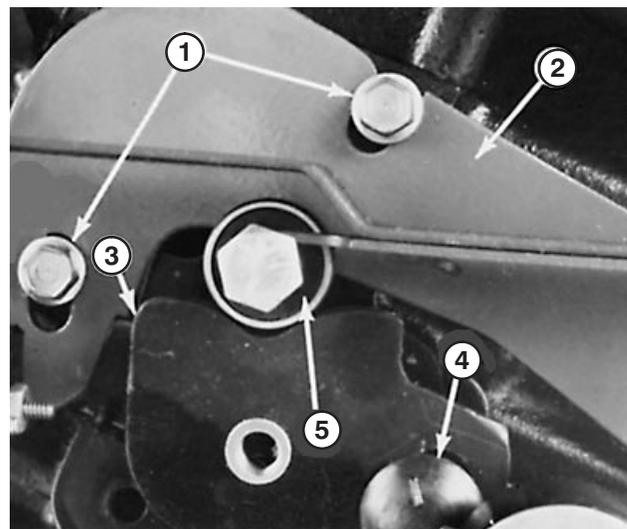

Figure 71
4. With engine OFF, loosen nut on carriage bolt and allow bearing to locate cam (Fig. 71). Carefully tighten nut on carriage bolt.
5. Loosen screws to allow neutral device bracket to move; but not freely (Fig. 71). Adjust neutral device bracket so that $40 \pm$ in.-lb. of torque on control lever just starts to rotate lever. Tighten screws.